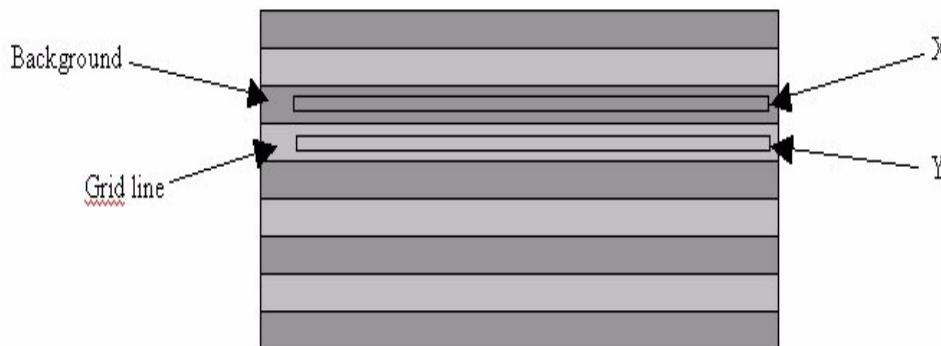

Fig. 3 Measurement of the grid lines
3. Select **Tools -> Rectangle** and draw a rectangle (approx. **1 sq.cm**) on the "background" as shown in Fig. 3 (**X**). You have to perform the measurement approx. **2 cm** above the chest wall at the center of the detector. The rectangle should be approx. **5 cm** long.
4. Make a new rectangle on a **grid line** according to Fig. 3 (**Y**). The rectangle should be approximately **5 cm** long.